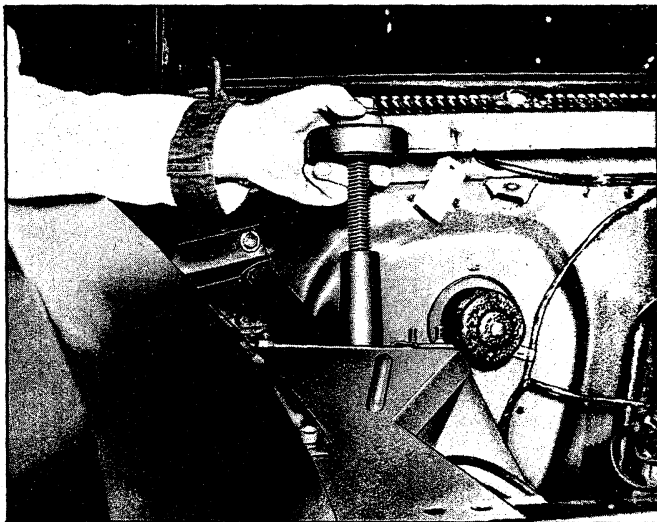

Fig. 23 - Installing Spring Compressor - Chevy II
4. Insert Spring Compressor J-6874-4-5 with Adapters J-6874-8-9 into upper spring tower so that lower "U" bolt fits into shock absorber mounting holes in spring seat (fig. 23). Secure the two lower studs to the spring seat with nuts.